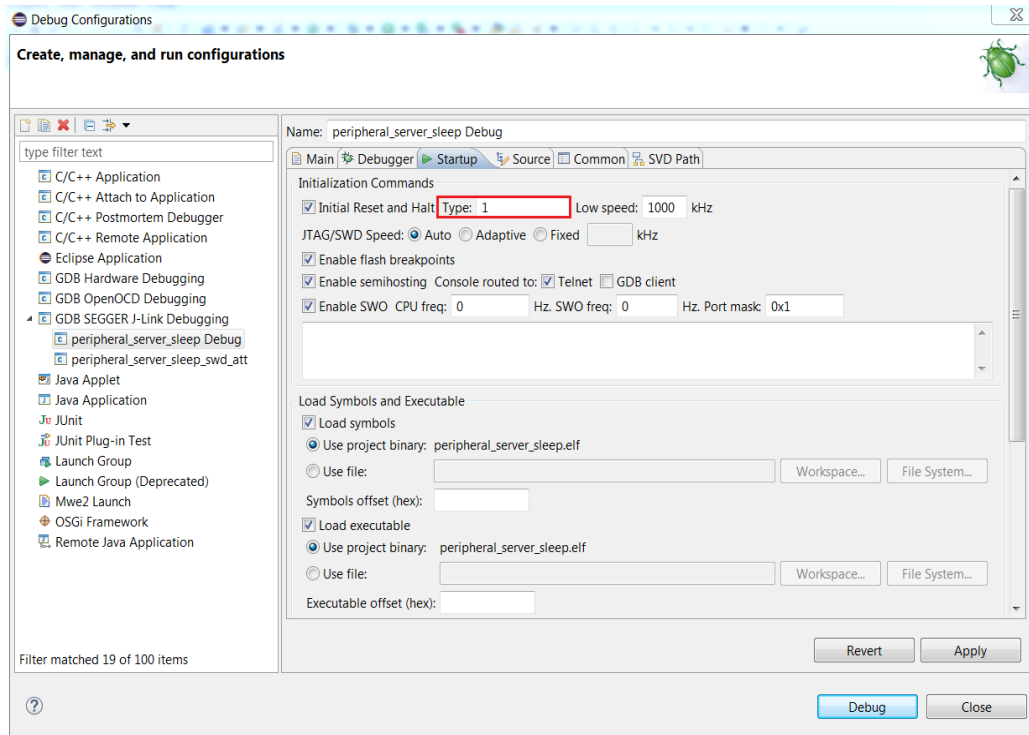
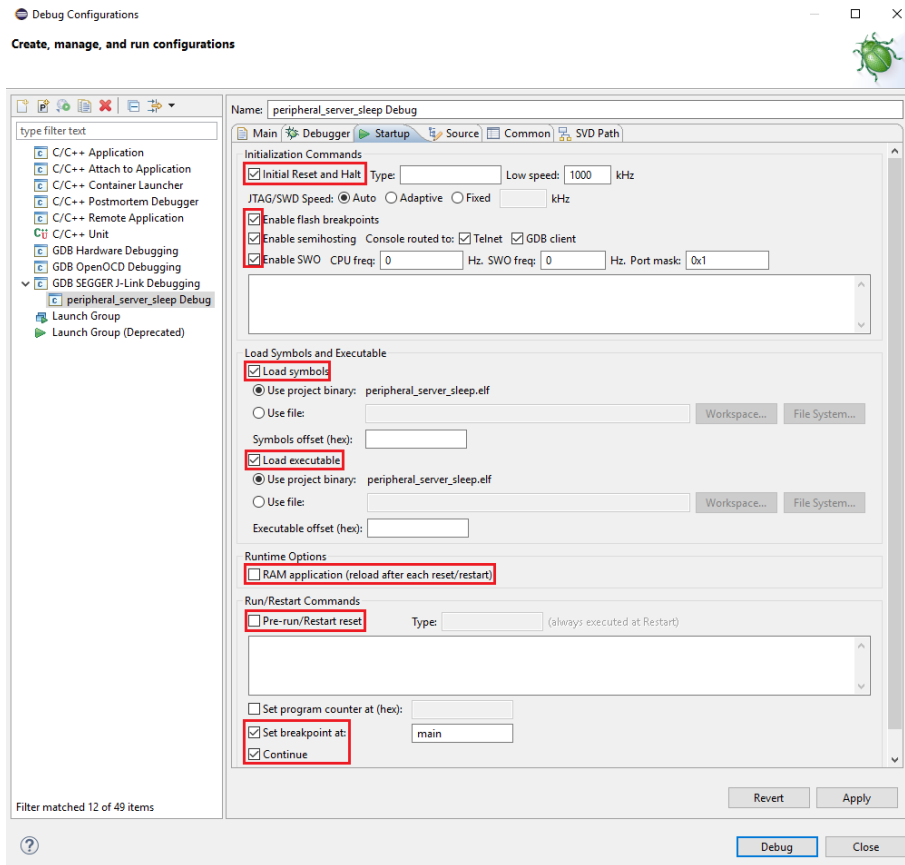

Figure 46. Setting Reset Type in the Debug Configuration Session
Figure 47. Startup Tab: Debug Session that Initiates Restart
- ii. Adjust the displayed values for your configuration and click on **Apply** (see Figure 46, and Figure 47 on page 39).
NOTE: If you are having trouble downloading firmware to the device, in addition to using DIO12, you can also perform the software recovery by setting the **Reset Type** to 1 in the **Debug** session configuration (see Figure 46). The default **Reset Type** is 0, which only resets the Arm Cortex-M3 core while leaving the device/peripherals in a state where J-Link can't reconnect. Setting the **Reset Type** to 1 ensures that not only is the Arm Cortex-M3 core reset, but so are all